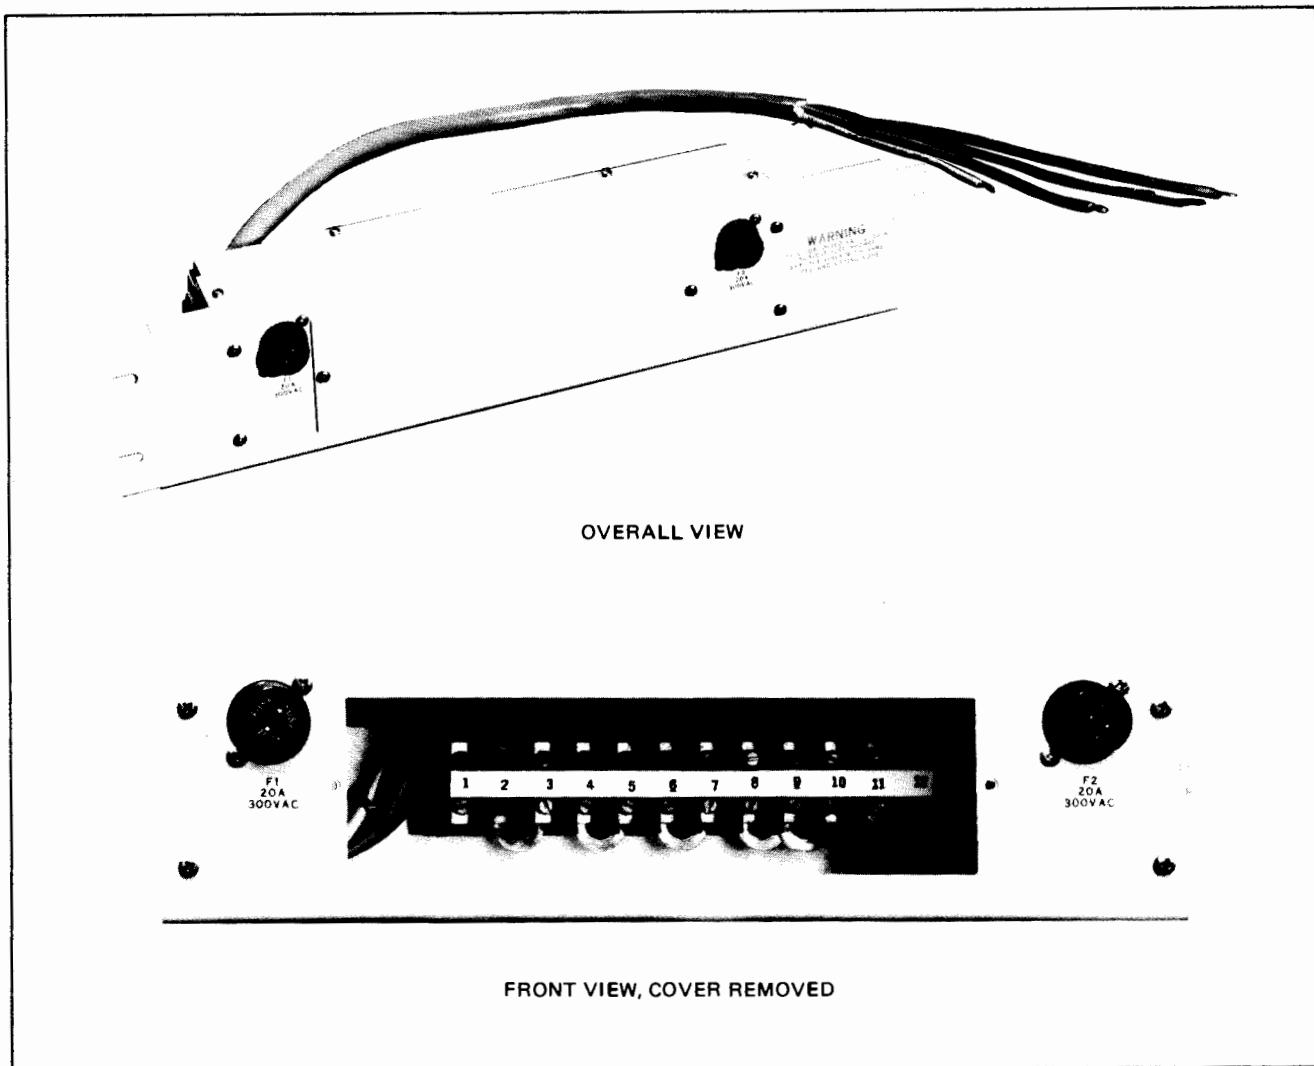

Figure 2. Power Distribution Unit
11. **I/O BAY.** This bay does not contain side panels and extendable legs. Included is the hardware for connecting together bays 1 and 2 in the field. The front door has an open fan grill. A panel fan assembly is located at the front bottom. A Power Distribution Unit (figure 2) is mounted at the rear.
- Remove access plate (see figure 2) from PDU by removing two screws and two lockwashers.
- Configure PDU strapping connections in each bay according to available primary power and bay position relative to PCM bay as listed in table 1. TB1 is shown (not labeled) in figure 2. Figure 3 shows the orientation and numbering of bays relative to bay one, which contains the PCM.